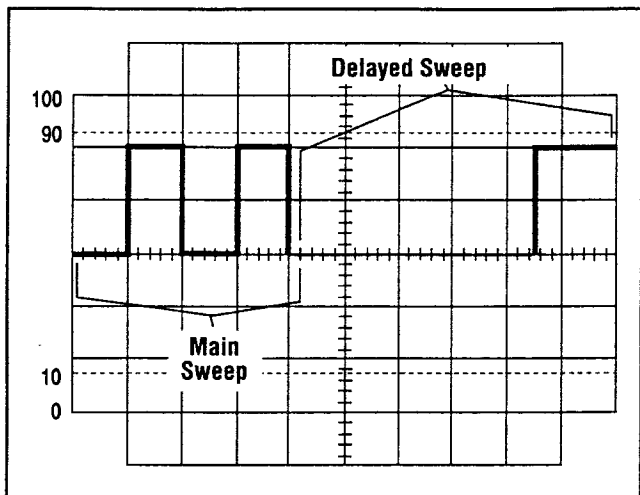

Fig. 5. MIX SWEEP MODE Display.
## DELAYED SWEEP OPERATION (Model 2125A) (Refer to Fig. 5)
2. Set the **Sweep Mode** switch to the **MIX** position. The display will show the main sweep on the left portion (representing the **MAIN Time Base** control setting) and the delayed sweep on the right portion (representing the **DELAY Time Base** control setting). The **MAIN Time Base** portion of the trace usually will be brighter than the delayed time base portion. Fig. 5 shows a typical display for the **MIX** display mode.